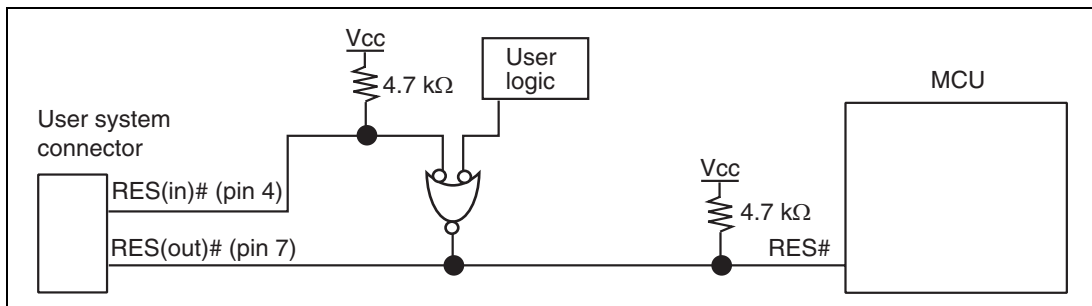

Figure 1.6 Connection of Pin RES#
- RES(in)# of pin 4 of the user system connector is a signal line in which the emulator outputs signals to the MCU. RES(in)# of pin 4 and the user logic reset circuit for the signal line must be connected to pin RES# of the MCU as shown in figure 1.6. RES(out)# of pin 7 of the user system connector is a signal line in which the emulator monitors pin RES# of the MCU.